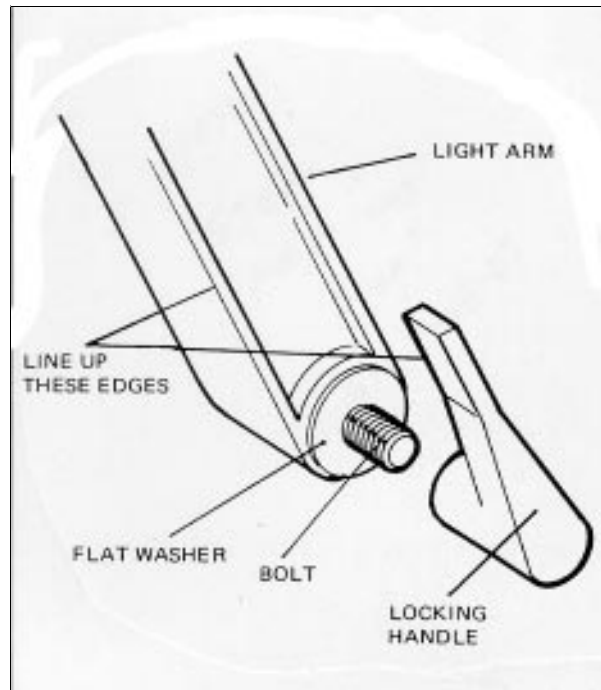

Figure 5-1. Aligning Light Arm and Locking Handle
- 3) Using a large wide bladed screwdriver, unscrew the bolt from the light arm locking handle (figure 5-1).
To insure that the locking handle will function properly, it must be aligned so that the finger portion is on the same place as the light arm (figure 5-1).